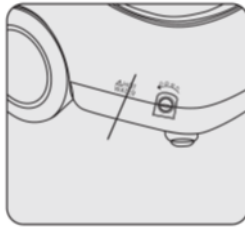

Fig.13
- Unscrew the drainage valve which is at the back of the appliance anti-clock wise. (See Fig.13)